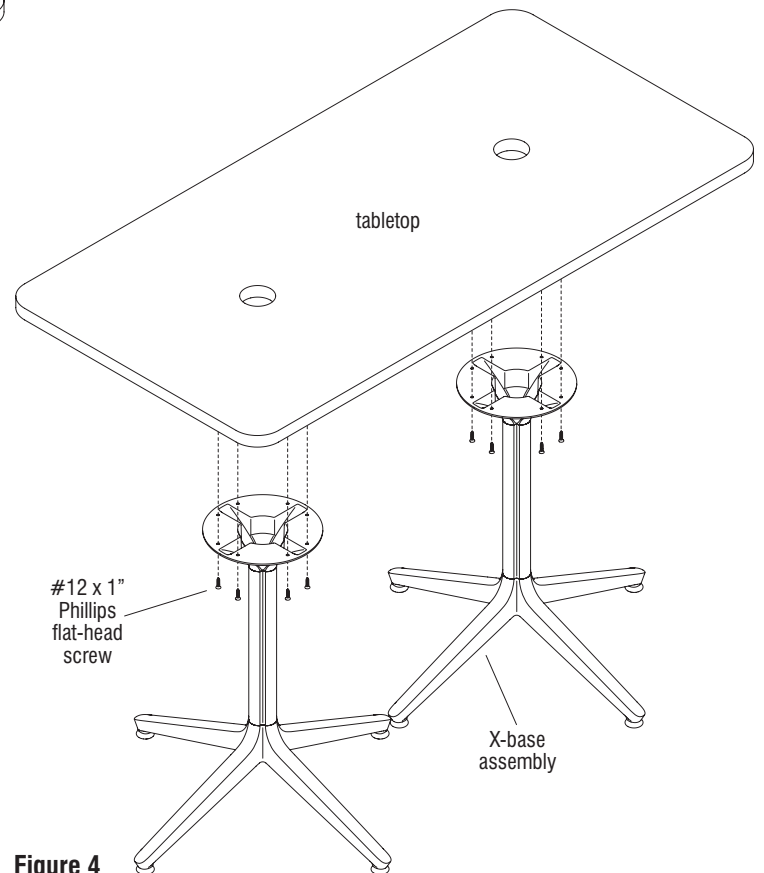

Figure 4
module, and/or is not already resting on top of the X-base assembly, carefully turn the X-base assembly to the upright position on the floor, then place the tabletop on top of the spider plates (Figure 4).
8. Align the mounting holes of the spider plates with the mounting holes on the underside of the tabletop and secure together using eight #12 x 1" Phillips flat-head screws per plate (Figure 4 & Detail D).